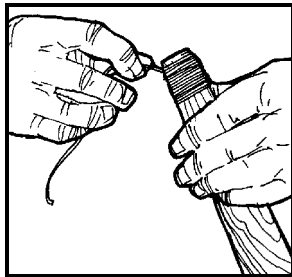

Figure 5. Thread Used to Tighten Joint
1. Coat sewing thread with glue and wrap it around the dowel. (See Figure 5, Thread Used to Tighten Joint.) Put more glue over the string. This may not hold as well as some of the other methods.